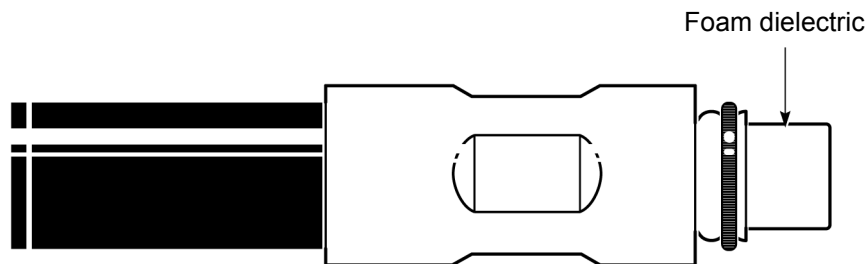

Figure 74 – Foam dielectric
2. Grasp the outer conductor with pliers and carefully pull it off, exposing the foam dielectric, as shown in Figure 74.